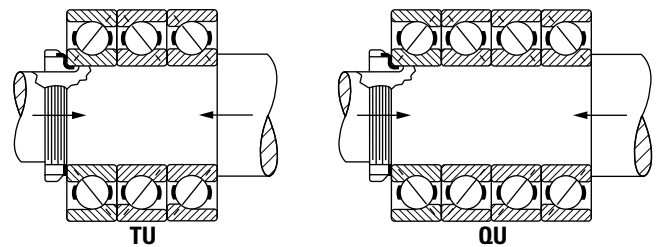

Fig. 103. Typical triplex and quadruplex bearing mountings.
Flush-ground (DU) pairs may be mounted in combination with a single flush-ground bearing as a triplex (TU) set shown below (fig. 103). Also shown below is a quadruplex (QU) set where three bearings in tandem are mounted back-to-back with a single bearing. These arrangements provide high capacity in one direction and also a positively rigid mounting capable of carrying a moderate amount of reverse thrust.